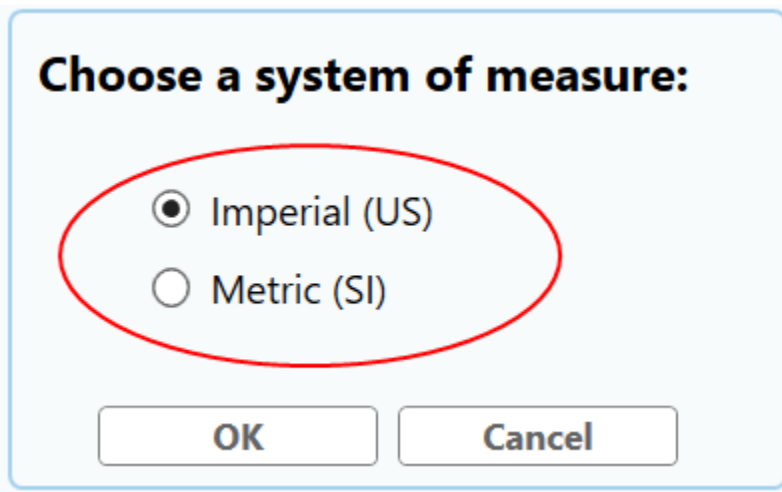

Figure 21- Selecting a System of Measure
3. You will be prompted to select the system of measure, **Imperial (US)** or **Metric**. Select the radio button for the desired option and click **OK** (Figure 21).